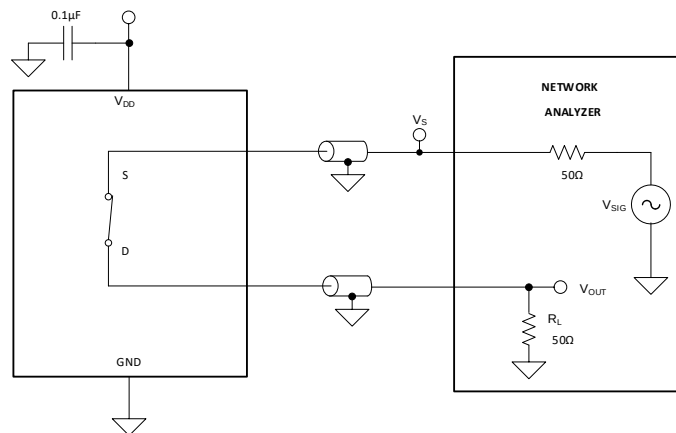

Figure 16. Bandwidth Measurement Setup
Bandwidth is defined as the range of frequencies that are attenuated by less than 3 dB when the input is applied to the source pin (S_x) of an on-channel, and the output is measured at the drain pin (D) of the device. Figure 16 shows the setup used to measure bandwidth.